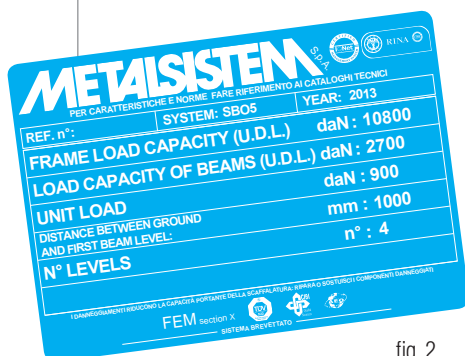

fig. 2
- Load bearing capacity plaque formatted as an information sign. These must be placed in clearly visible locations showing year of assembly, frame series and load bearing capacity, beam pair load or shelf load bearing capacity (uniformly distributed load), load unit, height of the first beam from ground and the number of levels (Fig. 2);